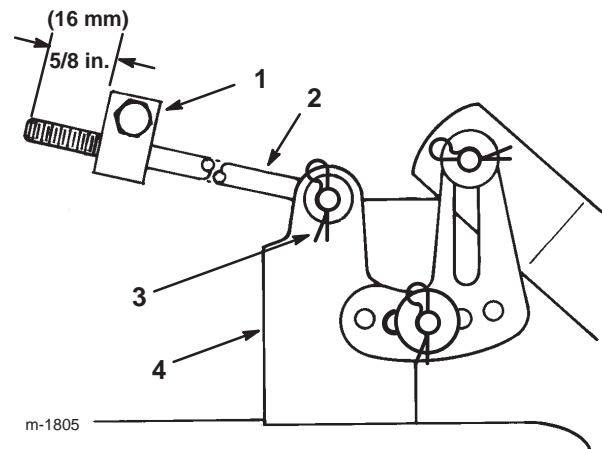

Figure 52
8. Measure the length of the rod extending out of the front of the adjusting block on the sides of the chassis (Fig. 52).
Note: If the rod length is not 5/8 in. (16 mm), remove the hairpin cotter and washer from the end of the rod (Fig. 52) and turn the rod until you obtain the 5/8 in. (16 mm) dimension.